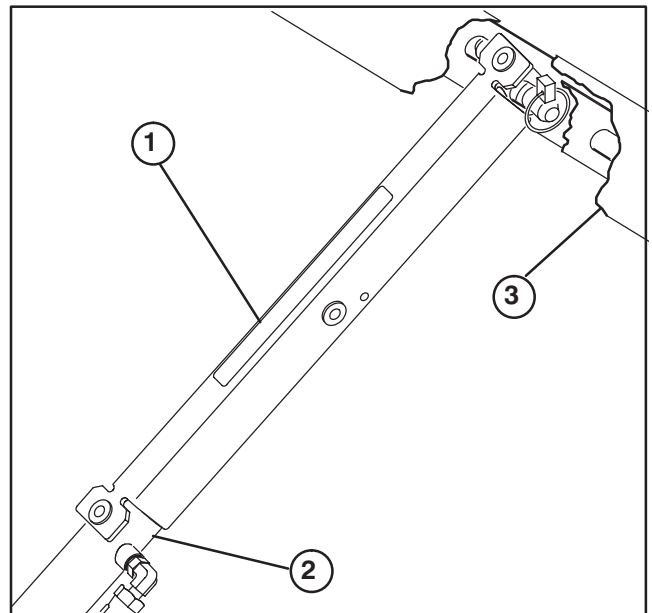

Figure 25
3. Push bed support onto cylinder rod, making sure support end tabs rest on end of cylinder barrel and on cylinder rod end (Fig. 25).